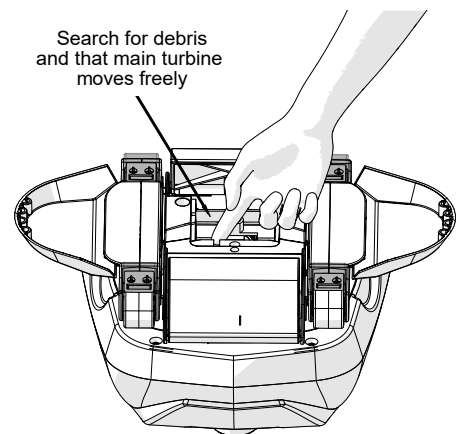

Fig. 11
5. Clean the turbine/vacuum chamber (see Fig. 11).
3. Lift the access cover (see Figs. 11 & 12, Pg. 7).